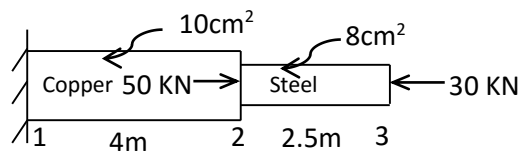

Fig. 1
b) Find nodal displacements for the stepped bar loaded as shown in Fig. 1. Take $E_s = 200 \text{ GPa}$ and $E_c = 100 \text{ GPa}$. **05**